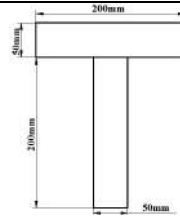

Figure 31
12. A T shaped cross section of a beam as shown in **Figure 31** is subjected to a vertical shear force of 100kN. Calculate the shear stress at the neutral axis and at the junction of the web and flange. M I about horizontal neutral axis is 0.000113m⁴.